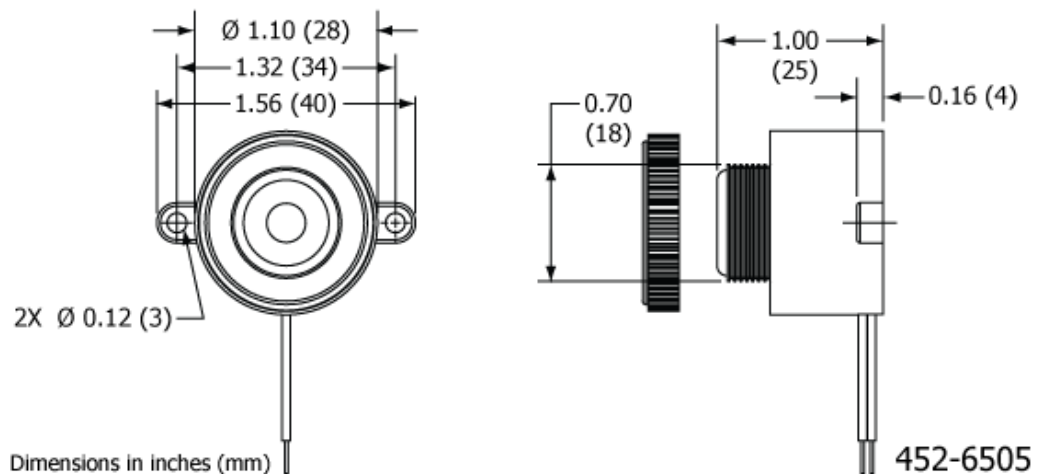

Figure 22 Buzzer Outline and Dimensions
- 2) Fabricate a support bracket for the buzzer. See Figure 22.